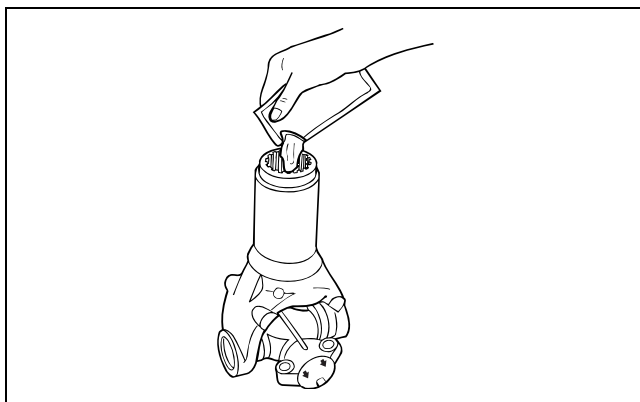

Figure 4.18
2. Use the grease packet supplied with the slip yoke to apply the entire amount of grease into the slip yoke. Figure 4.18.